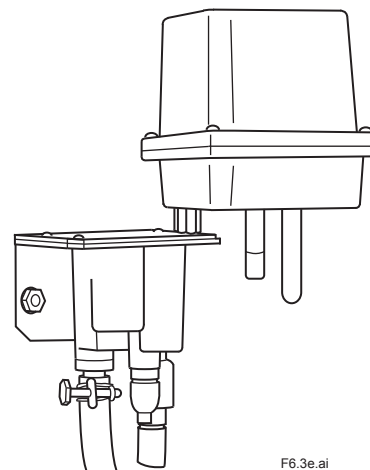

Figure 6.3 Maintenance Condition
Unscrew two fixing screws at the bottom of the electrode mechanism block (see Figure 6.3) to remove the measuring tank. Then pour the ceramic beads, provided in the accessory box, into the beads case up to the notch in the beads case cover (approx. 40 mm from the bottom)
Before starting to supply water to be measured, confirm that the needle valves in the FC400G and the sampling system are closed. When it's difficult to view the liquid surface in the measuring tank from outside, check the tank when it's time for electrode maintenance (refer to Fig. 6.3).
- (1) Press the **MODE** key on the converter to enter the operation level and press the **YES** **NO** key to select the <CELL> mode (cell motor ON / OFF). Press the **NO** key with respect to the message "CELL ON" displayed to stop the rotation of the indicator electrode. When the electrode stops rotating, the CELL lamp extinguishes.
- (2) Remove the electrode mechanism block from the measuring tank and set up the block as shown in Figure 6.3. The electrode mechanism block is fixed to the measuring tank using two screws at the lower part of the mechanism block.
A power switch in the power line to the FC400G is used to turn power ON / OFF (the FC400G does not have any internal power switch). Be careful not to turn on the power and cause an accident with the indicator electrode or belt used to rotate it when the cover is removed or the electrodes are parked in the maintenance position shown in Fig. 6.3
Check as follows that the electrode rotates normally. Put the electrode in the maintenance position (Fig.6.3) or lift the cover, and check the following: